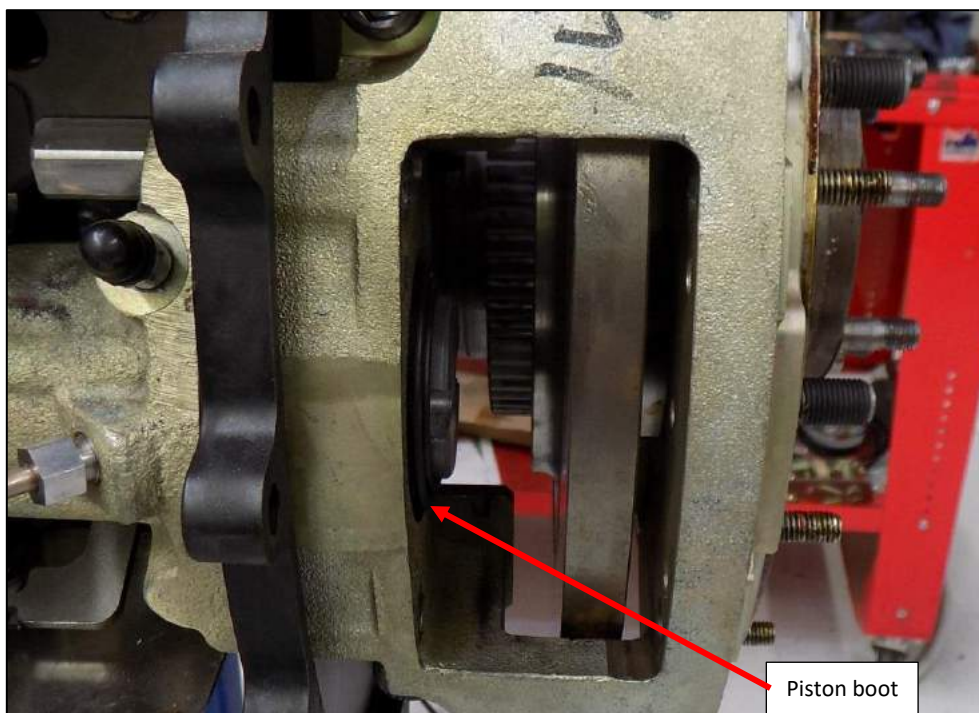

Figure 65
7. Slide the brake rotor evenly along the spline away from the service piston (Figure 65).
9. The piston boot is retained at its outside diameter in the housing and at its inside diameter by a groove in the piston. Visually inspect the piston boot and replace if necessary (Figure 65).